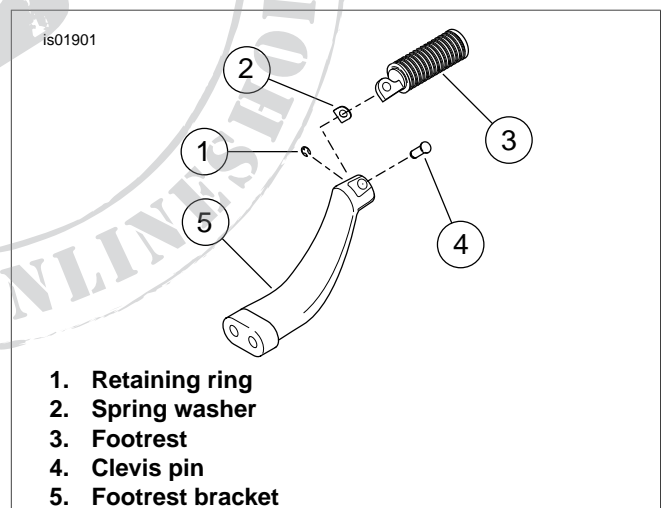

Figure 2. Remove Left Footrest from Support
4. See Figure 2. Remove the retaining ring (1) from the clevis to free the footrest clevis pin (4). Remove the clevis pin and footrest (3) from the footrest support. Save footrest for installation. Discard retaining ring, clevis pin, spring washer and footrest bracket.